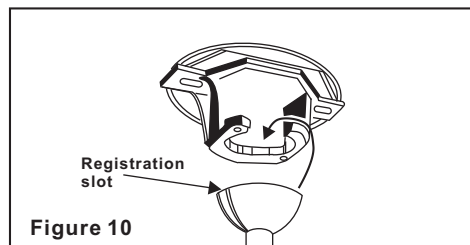

Figure 10
**Step 6.** Now lift motor assembly into position and place hanger ball into hanger bracket. Rotate until the check groove has dropped into the registration slot and seats firmly. (Fig. 10) Rod should not rotate if this is done correctly.